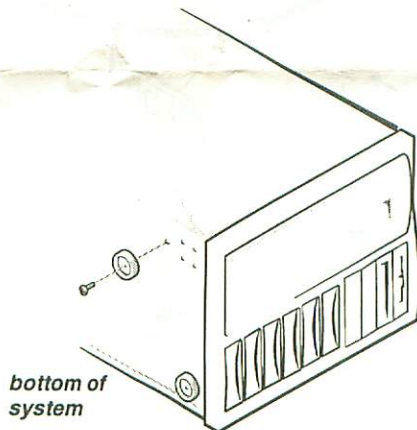

Figure 1. Removing the Feet
2. Remove the four rubber feet from the bottom of the chassis (see Figure 1).